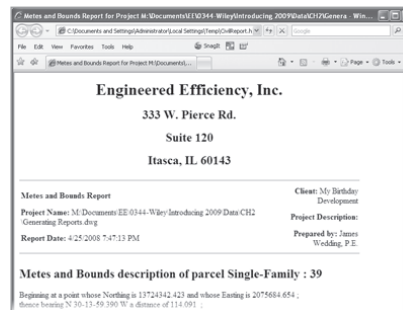

Figure 2.12
2. Expand the Owner branch, and fill in appropriate information as shown in Figure 2.12. You are the owner, and the Client branch is typically your client or the report recipient. Note that these settings are installation-dependent, meaning they'll be used every time you run the report, no matter which drawing file you are in.
3. Rerun the report, picking a new parcel if you'd like, and you should see your report updated as in Figure 2.12.